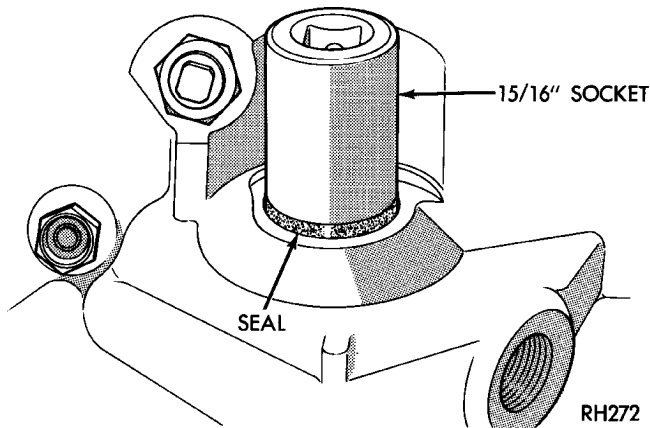

Fig. 129 Installing Manual Lever Shaft Seal
(37) Position new oil pan gasket on case and install oil pan. Tighten pan bolts to 17 N·m (13 ft. lbs.).
(38) Install new valve body manual shaft seal in case (Fig. 129). Lubricate seal lip and manual shaft with petroleum jelly. Start seal over shaft and into case. Seat seal with 15/16 inch, deep well socket.